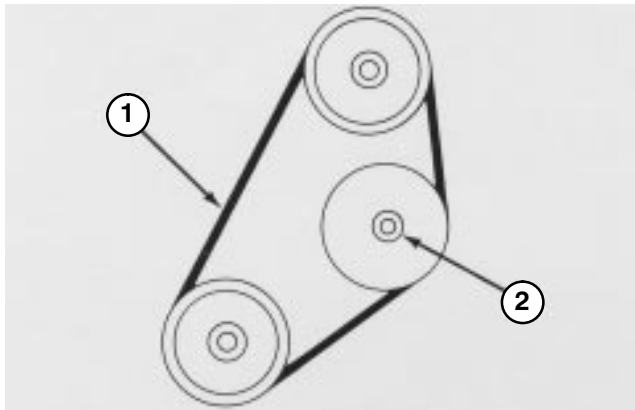

Figure 51
3. Belt should deflect 1/4 in. (6 mm) midway between the pulleys with 5 lb force (22 n) (Fig. 51). If deflection is incorrect, proceed to step 4. If correct, proceed to step 5.
4. Loosen locknut securing idler pulley (Fig. 51). Push idler pulley against belt until proper deflection is achieved and tighten idler pulley locknut (Fig. 51).
2. Loosen locknut securing idler pulley, slide pulley away from belt, and remove belt from top and bottom pulleys (Fig. 51).
3. Install new belt and adjust for proper tension. Push idler pulley against belt until belt deflects 1/4 inch (6 mm) with 5 lb force (22 N) midway between top and bottom pulley locknut to secure adjustments (Fig. 51).